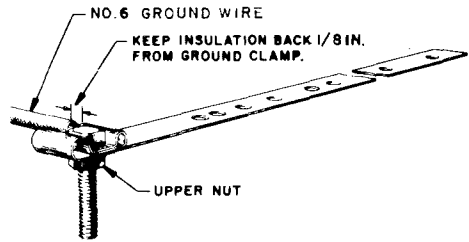

Fig. 43—Attaching No. 6 Ground Wire to L Ground Clamp
- (4) Insert the ground wire conductor into the smaller loop of the ground clamp and secure it by tightening the upper nut on the bolt and attach Form E-3013B (ground wire tag).
- (5) Bend the strap around the pipe and engage the bolt with the farthest possible hole from the end of the strap (Fig. 43).